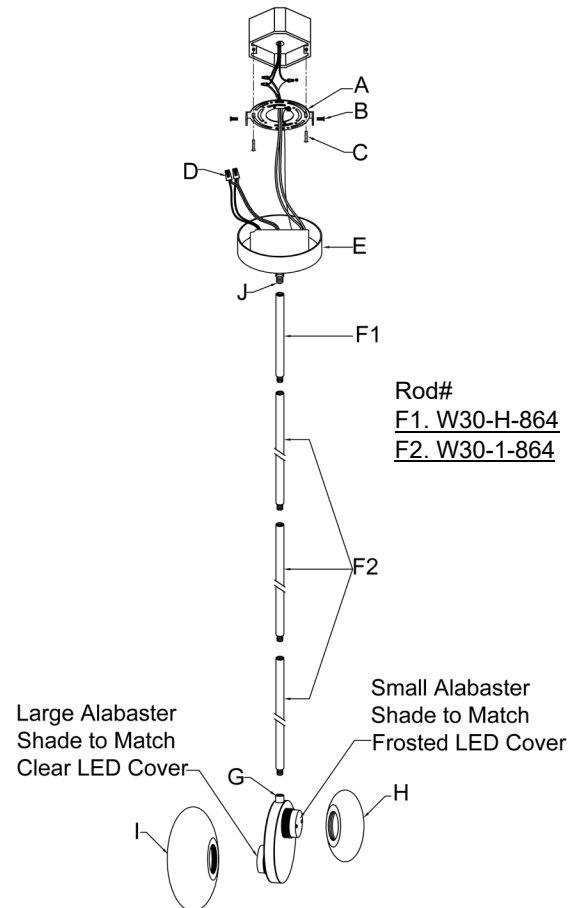

Fig. 2
CONNECTING THE WIRES (Fig. 2)
7. Connect the electrical wires as shown in Fig.2, making sure that all wire connectors are secured. If junction box has a ground wire (green or bare copper), connect the fixture's ground wire to it. Otherwise, connect the fixture's ground wire directly to mounting plate (A) using the green screw provided.